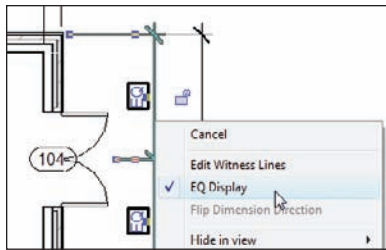

FIGURE 5.9 Toggle off the EQ Display.
3. Choose EQ Display, as shown in Figure 5.9.